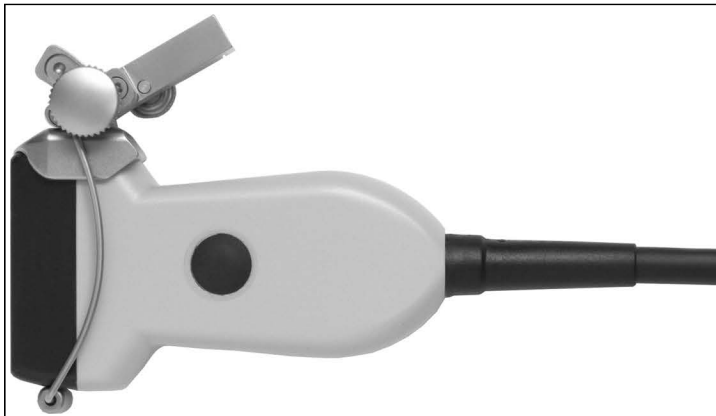

Fig. 5. Puncture guide UA1269 mounted on 8670
2. Lock the swing arm into position. An audible “click” indicates the needle guide is securely attached (see Fig. 5.).